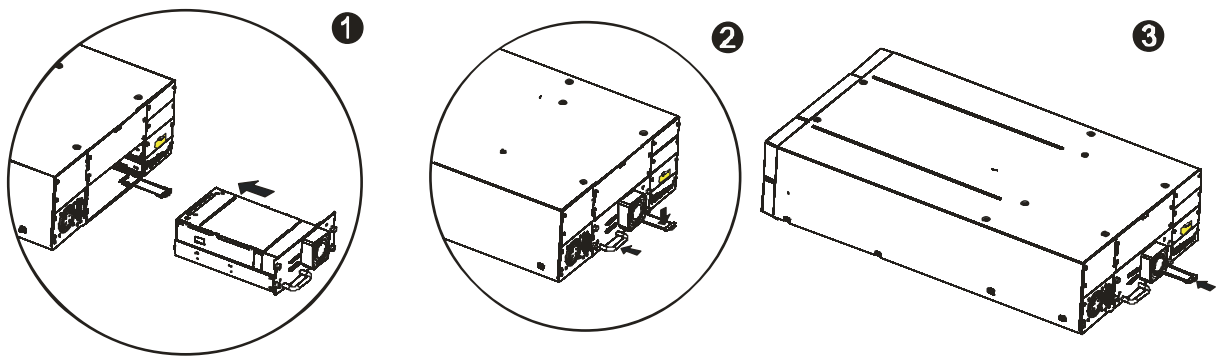

Figure 61 Installing a tape drive
2. Slowly insert the new tape drive into the drive bay, and align the connectors on the Library while supporting the drive assembly (see Figure 61).
3. Loosen the three captive thumbscrews on the power supply (see Figure 61).